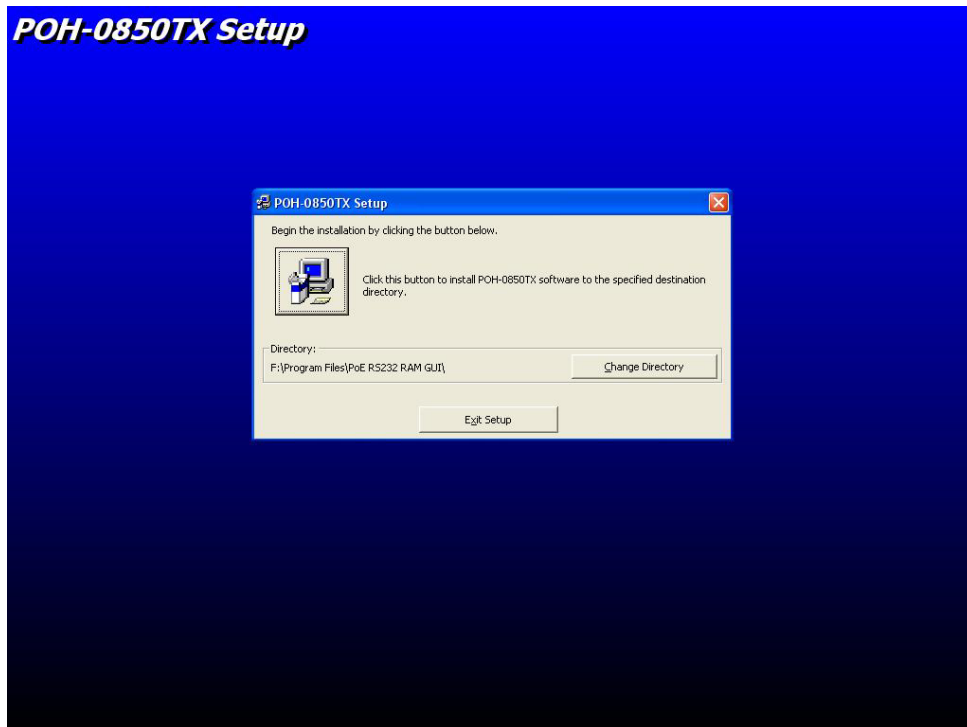

Figure 3-2
5. Click the  button to start installation. See Figure 3-2.